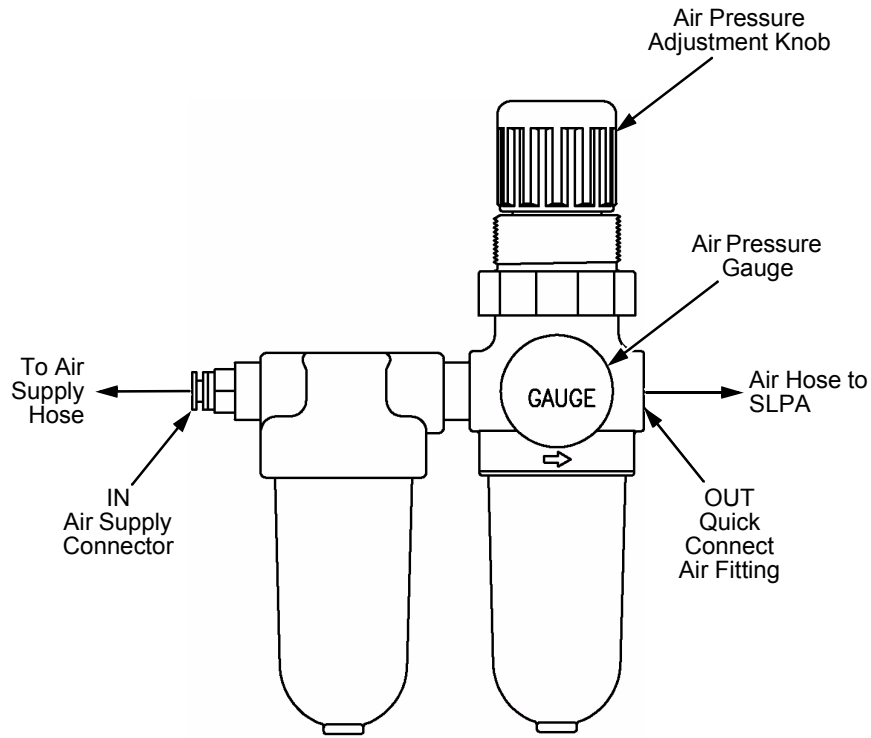

Figure 4. Air Filter
8. Connect the air supply hose to the air supply connector marked IN. (Figure 4.)
11. Adjust the air pressure to 90 ± 10 psi using the air pressure adjustment knob and the air pressure gauge (Figure 4): pull up the knob, then rotate it clockwise to increase pressure or counterclockwise to decrease pressure. Push in the knob when you have set the pressure.